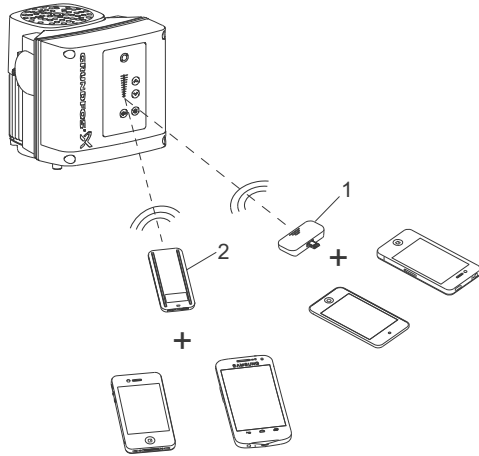

Fig. 41 Grundfos GO communicating with the motor via radio or infrared connection (IR)
Grundfos GO Remote offers the following mobile interfaces (MI). See fig. 41.